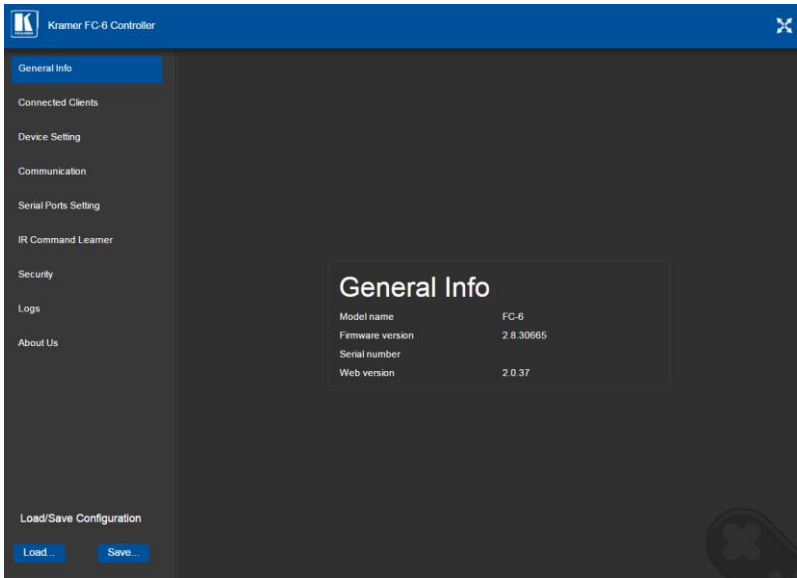

Figure 10: General Info Page
2. Using a Web browser and the relevant IP address, browse the General Info home page (see Figure 10).
A loading page appears followed shortly by the General Info page shown in Figure 10.